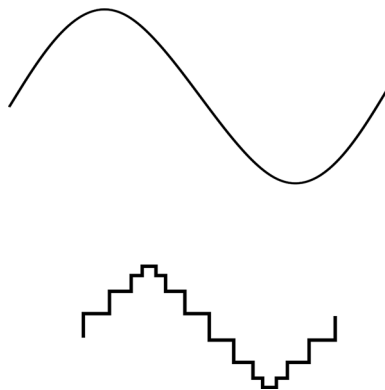

FIGURE 14.1 An analog wave (top) and its digital equivalent (bottom).
**LAB FIGURE 14.1.** An AND gate.